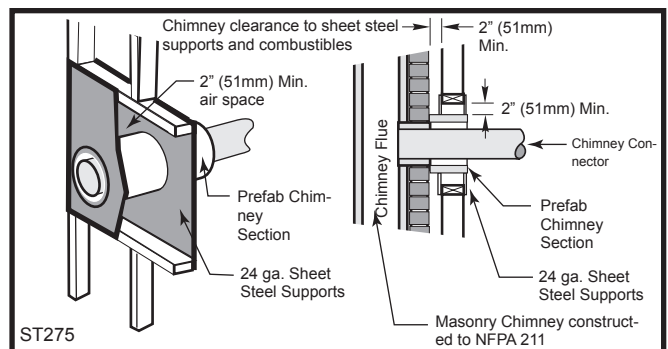

Fig. 12 Wall Pass-through with ventilated steel thimble.
- Placing a chimney connector pipe inside a section of 9" (229 mm) diameter, solid-insulated, factory-built chimney, with two inches of air space between the chimney section and combustibles. (Fig. 12)